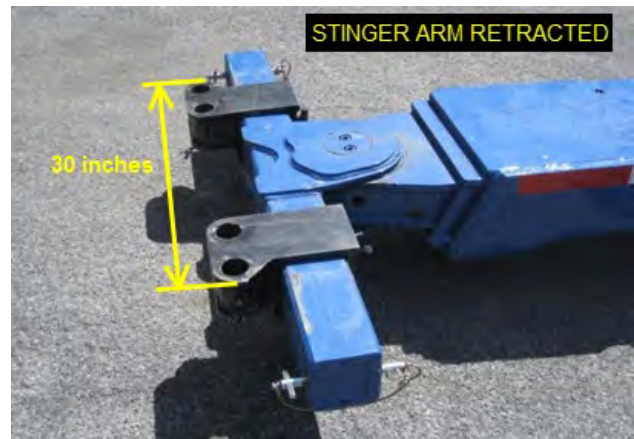

Figure 62
3. Retract the tow truck stinger arm (Figure 62).
4. Pre-adjust spacing between the axle fork holders. The spacing between the most distant edges of the fork holders should be **30 inches** (Figure 62).